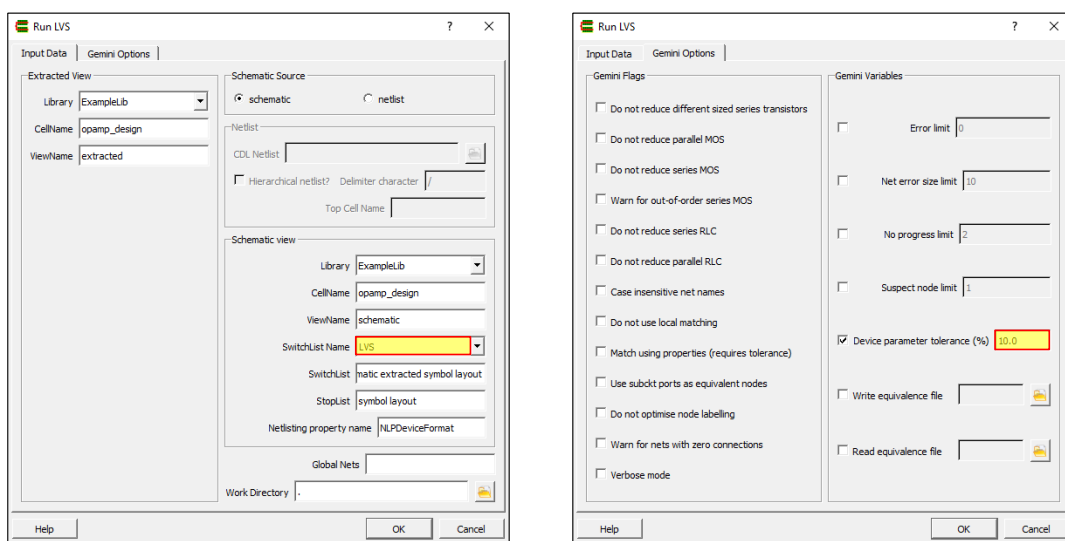

Figure 23 Gemini configuration for the LVS verification of your ExampleLib→opamp_design→extracted view.
4. Configure Gemini according to Fig. 23 and run the LVS process.
Second, although netslits may match topologically, Gemini still performs a comparative audit of device properties according to the 10-% tolerance specified in Fig. 23. In this case, LVS output reports a mismatch in the compensation capacitor size between schematic ($100\ \mu\text{m} \times 100\ \mu\text{m}$) and layout ($\simeq 64\ \mu\text{m} \times 156\ \mu\text{m}$), which have been also highlighted in both netlists.